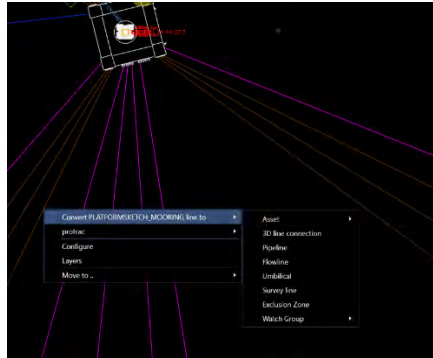

FIGURE 8-47 MAP WINDOW - CREATE OBJECT OPTION
2. From the resulting menu (see Figure 8-47), select the type to create from the polyline